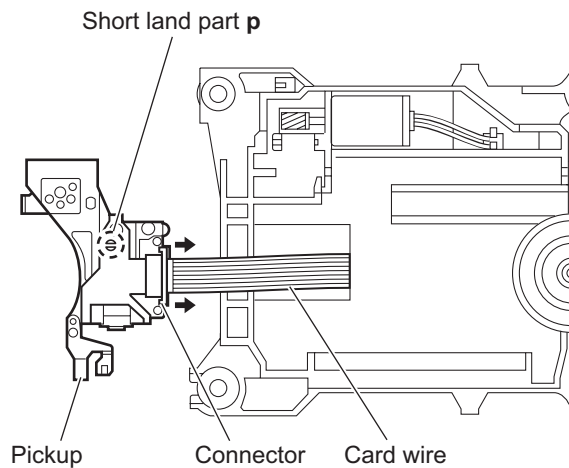

Fig.9
- (7) Solder the short land part **p** of the pickup. (See Fig.9)
- (8) Release the lock of the connector to direction of the arrow, and then disconnect the card wire. (See Fig.9)
- Solder to short land part **p** of the pickup then disconnect the card wire from connector. If disconnect the card wire before soldering, pickup is make sure destroyed by static electricity. (See Fig.9)
- When reattaching the pickup, connect the card wire to connector and then remove the solder from short land part **p**. (See Fig.9)
- (1) Connect the card wire to connector of pickup, and then remove the solder from short land part **p** of the pickup. (See Fig.9)